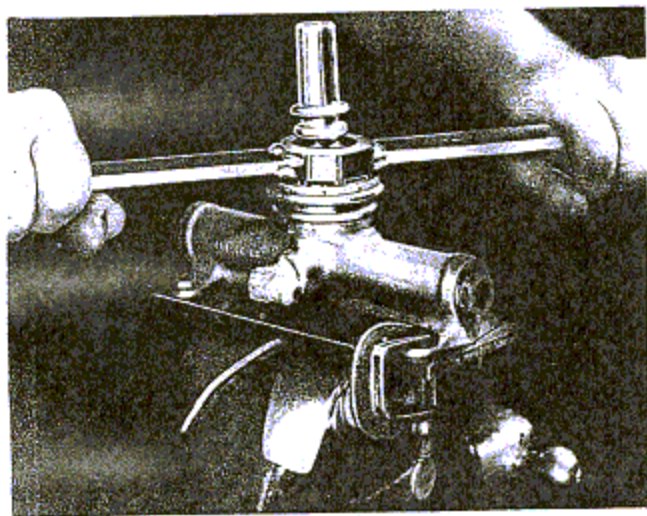

Figure 222—Removing Nut from Hand Pump Body
4. Cut the safety wire on the pump nut and turn the nut from the pump body by the special hand pump wrench (part No. 87-88-032) carried in the airplane tool kit. (See figure 222.) Remove the shim under the nut flange.